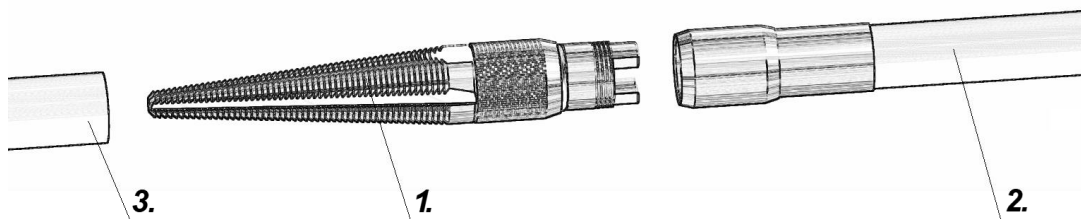

Figure 8.8.1
For installing PE, PVC pipes (manually) the Insert nipple (1) could be used (Figure 8.8.1.). This method can be used for pipes of diameter Ø25÷Ø55 mm.